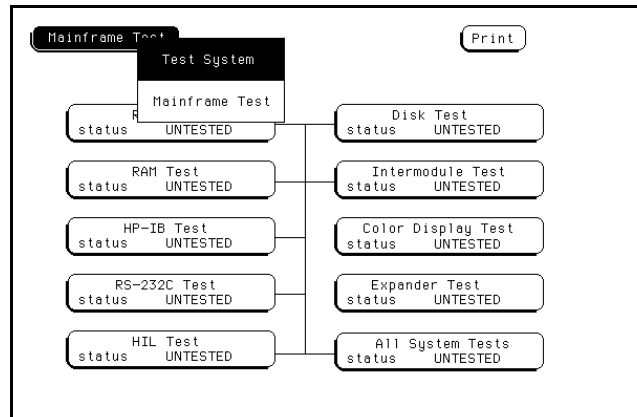

Figure 6-14. Exiting the Mainframe Test System
2. Touch the **Mainframe Test** field, then touch the **Test System** field from the pop-up menu. See figure 6-14. The Test System Configuration is displayed.